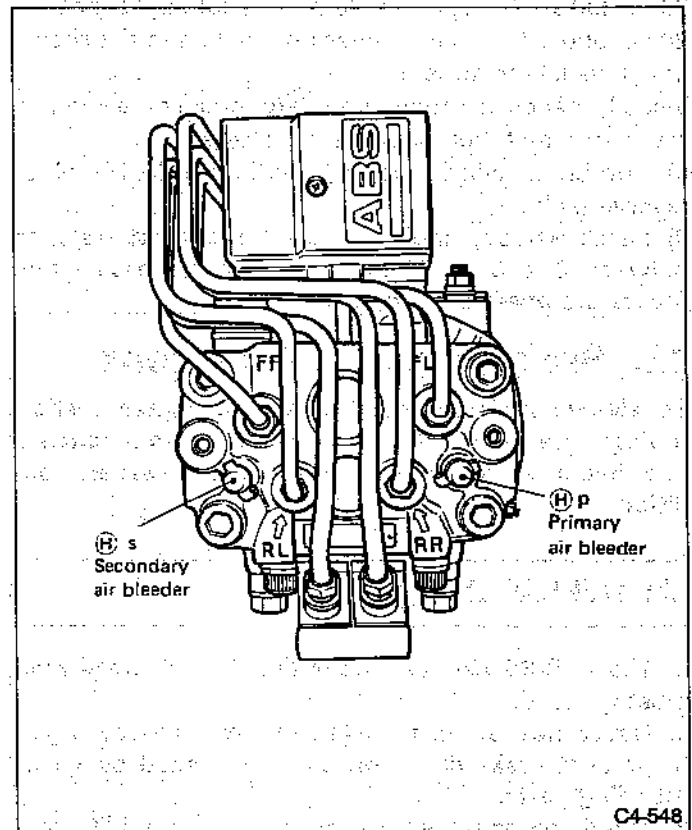

Fig. 143 Hydraulic unit
5) Bleed air from brake system in numerical sequence shown in Figure 143 and 144 using above steps as a guide.